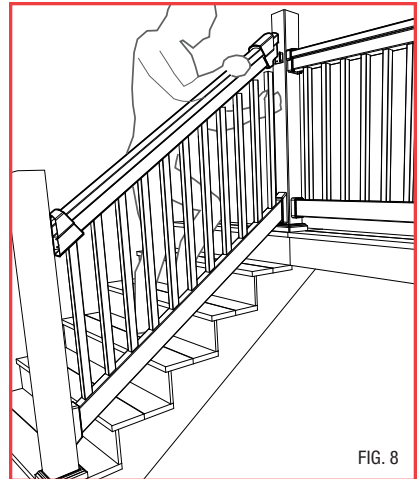

FIG. 8
13. Slide bracket covers over both ends of the top rail. Align top rail over the balusters and insert balusters one at a time until the top rail is fully installed. (Fig. 8)